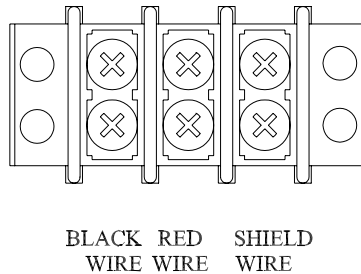

Figure 17 Control Cable Wiring Diagram
3. Connect the control cable to **Main Control** terminal block on the junction chassis according to figure 17.